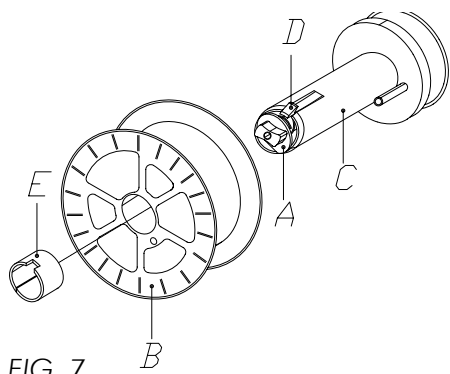

FIG. 7
SPOOL HOLDER AS FIG. 7 - 7A
- Open the side panel. Loosen the nut (A) of the spool holder (position 1) (brake drum). Remove the spacer (E, if present). In the case you are replacing the wire spool, extract it by pushing the snap tongue (D) (Fig 7).
- Remove the plastic protection from the spool. Place it on the spool holder. Mount the spacers again (E/F, only for 5kg spools; the smaller spacer E must be mounted between the spool and the spool holder). Then tighten the lock nut (A) turning it to position 2. (Fig. 7).